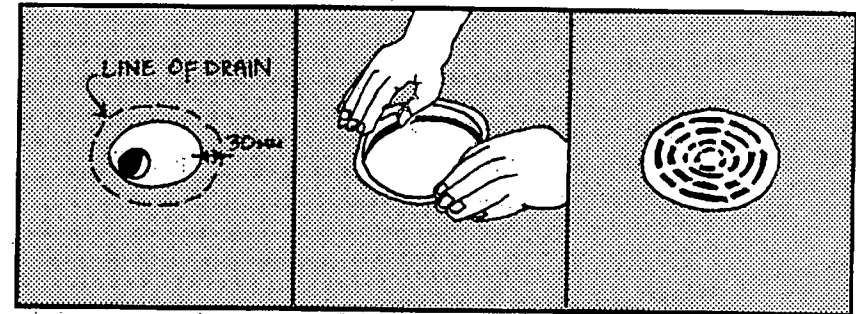

Figure 9
- After laying cut a hole over the drain, leaving 30mm waste around the circumference. Pre-heat for flexibility. Figure 9.